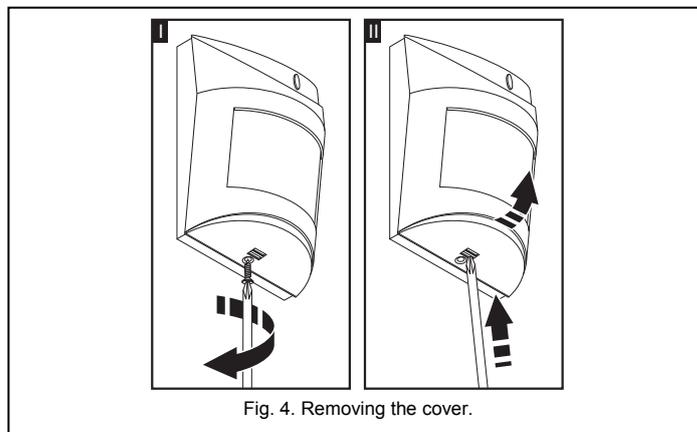

Fig. 4. Removing the cover.
1. Open the enclosure as shown on Fig. 4.